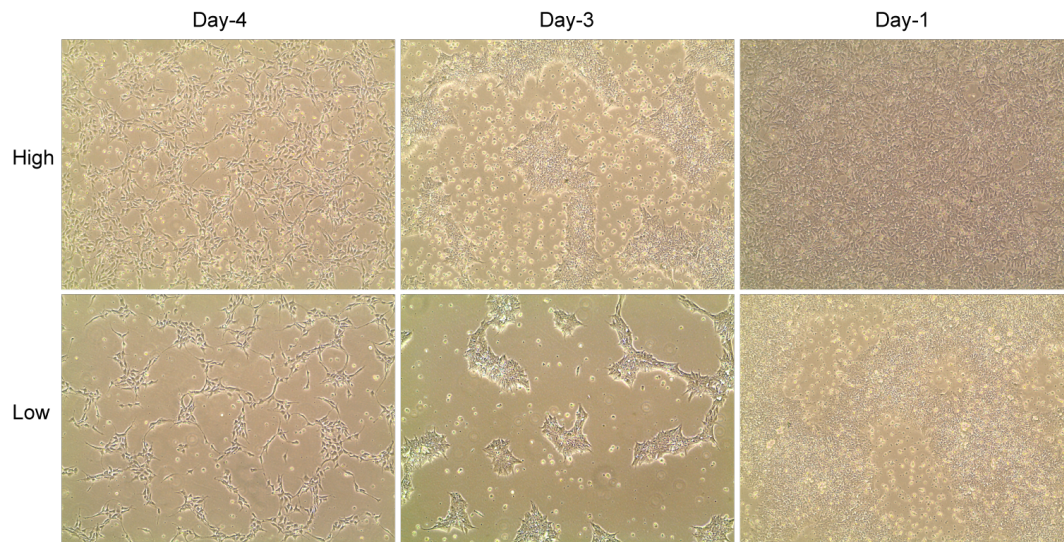

Figure 2: iPSCs preparation
- Incubate for around 5days. Feed cells every day. (Fig.2)